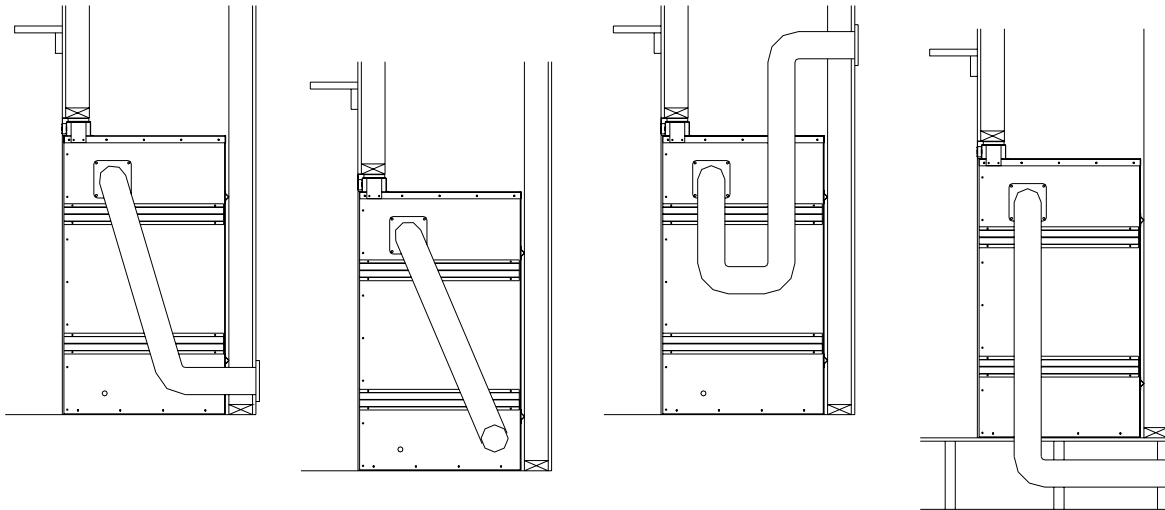

FIGURE 19: OUTSIDE AIR KIT INSTALLATION METHODS
The fresh outside air duct system must be installed according to the following requirements, See Figure 19 for example installations:
A minimum of a four (4) inch hole is to be made in the outside wall of the house at the specified location for the fresh air outside air duct. From outside the home place the fresh outside air duct register in the hole (open side down) and fasten the register to the wall with screws provided. Slip the duct pipe into the insulated sleeve. Place the insulated pipe over the register tube and over the fireplaces outside air connector. Figure 19 shows multiple outside air kit installation possibilities. Galvanized pipe can be used for the outside air tubing but Country Flame Technologies recommends insulated pipe. Insulated pipe will reduce, if not eliminate, the chances of water condensate as cold air is brought into a warm air (living space.) Carefully pull back the insulation and plastic cover at each end exposing the flexible pipe. Using aluminum tape, wrap the tape around the joint between the flexible pipe and the air inlets. Carefully push the insulation and plastic cover back over the pipe. Using aluminum tape, fasten the plastic cover in place.